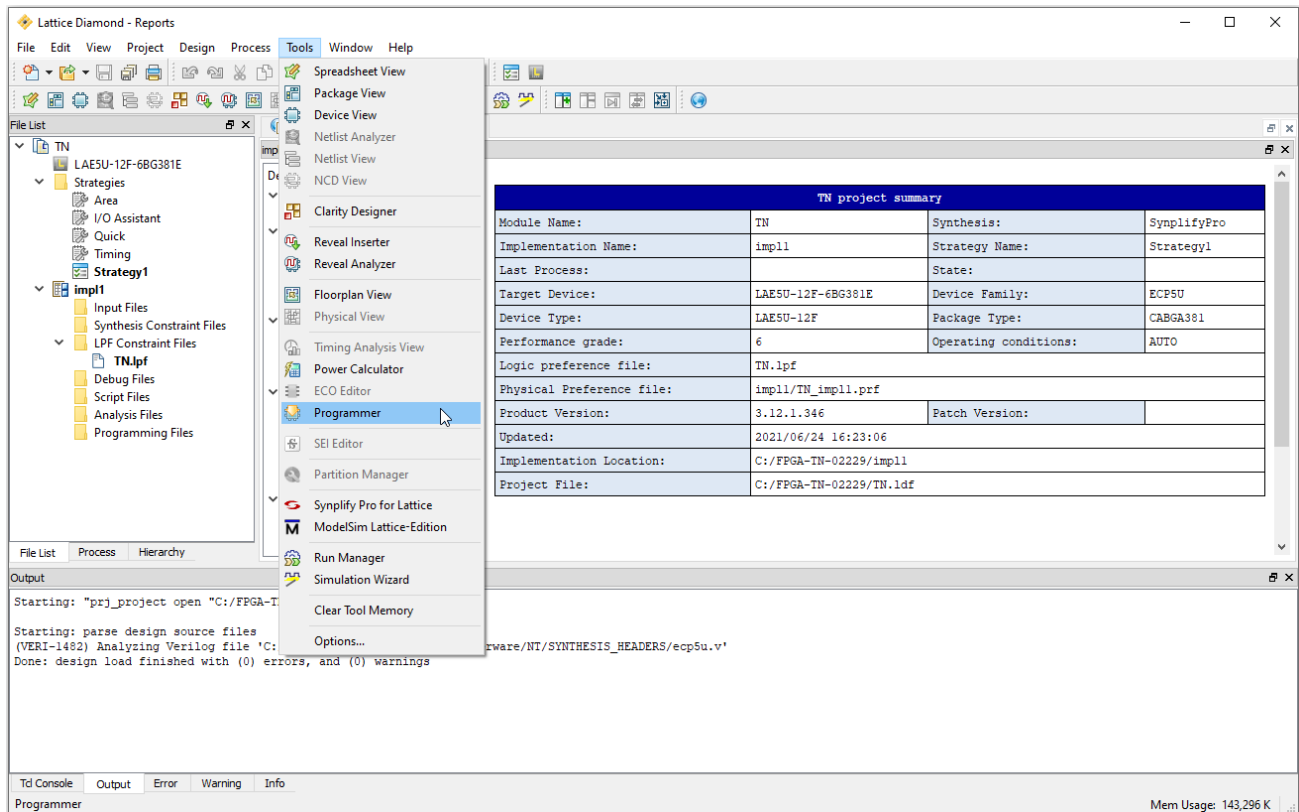

Figure 3.3. Lattice Diamond Software – Programmer
1. Invoke Diamond Programmer from the Diamond Software window by going to **Tools > Programmer**, as shown in Figure 3.3, or clicking the **Programmer** icon () from the Diamond Software toolbar. Diamond Programmer can also be selected outside of Diamond Software by going to Windows Start Menu. Select it from the **Lattice Diamond 3.12** folder.